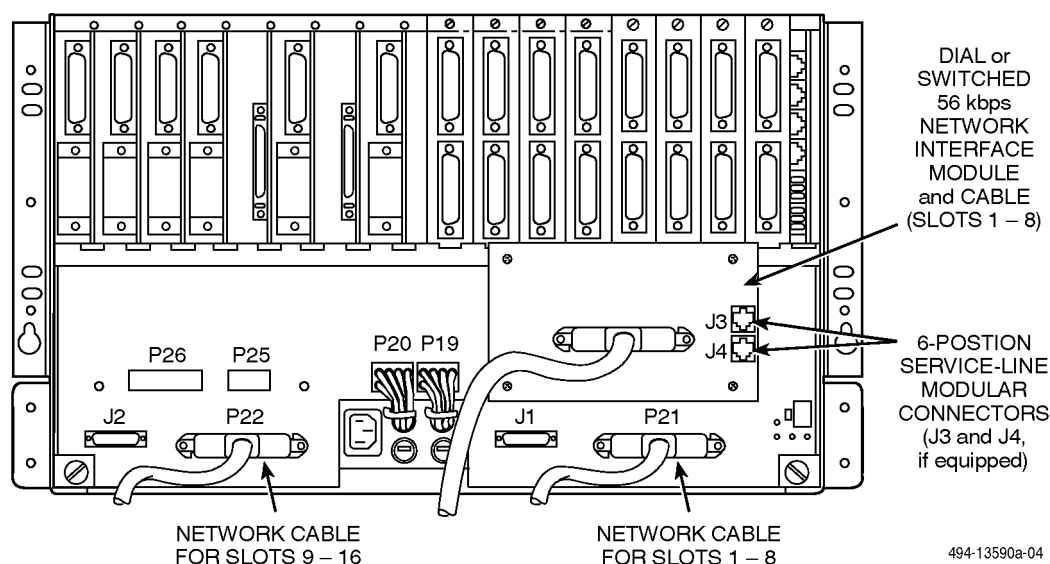

Figure 3-32. Dial Network Interface Module Installation
4. For the dial interface, connect the line side of the cable to the dial circuit terminations assigned to the DBMs and dial/lease modems in carrier Slots 1–8 (Figure 3-32).
For the switched 56 kbps network interface, connect the line side of the cable to the switched 56 kbps circuit terminations assigned to the Switched 56 DBM in carrier Slots 1–8 (Figure 3-32).